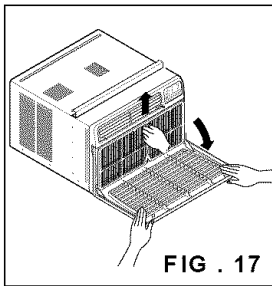

FIG . 17
- Pull the inlet grille forward, grasping both tabs, then pull out the air filter. (FIG. 17)